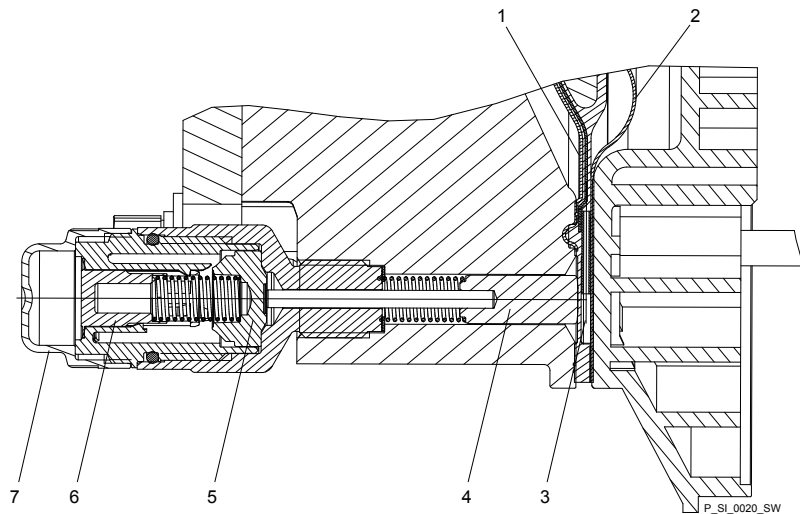

Fig. 23: Section through the Sigma diaphragm rupture warning system ("Visual break indicator" version)
2. ➤ If the piston of the diaphragm rupture sensor - see Fig. 23, item 4 - should have become dirty or damp, clean both it and the hole in which it runs.